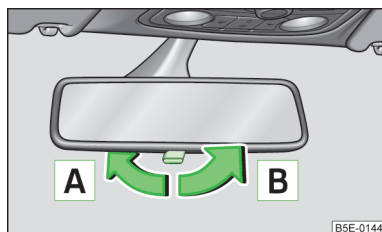

Fig. 43
- To dim the mirror set the lever on the rear view mirror in the direction of the front wheel - arrow **A** » Fig. 43.